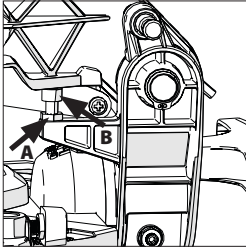

Fig. 11A + 11B
- Loosen the locknut on the downward travel stop screw with a 10mm spanner (Not supplied) (**Fig. 11A**).